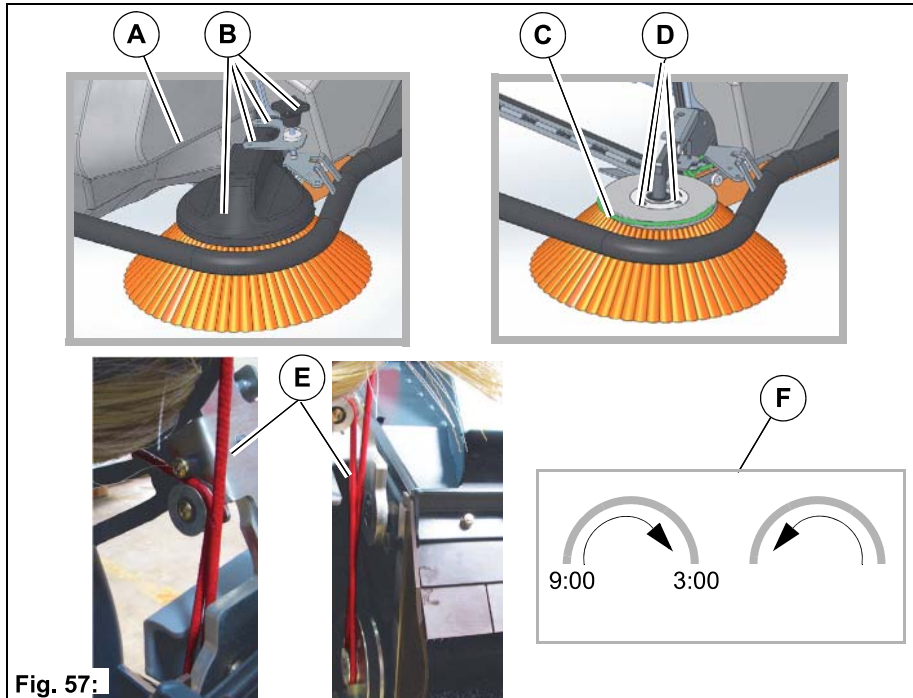

Fig. 57:
1. Switch off the machine and remove the dirt hopper **Fig. 57-A**.
2. Remove both M6x16 flanged button head bolts, the brush adjuster and the cover **Fig. 57-B**.
3. Remove the round belt from the side brush **Fig. 57-C**.
4. Loosen the three screws **Fig. 57-D** of the side brush and remove it.
5. Fit the new side brush in the reverse order. Pay attention to the run of the belt **Fig. 57-E**.
Compared to a clock, the sweeping level must be from approx. 9 o'clock to 3 o'clock on the floor **Fig. 57-F**.